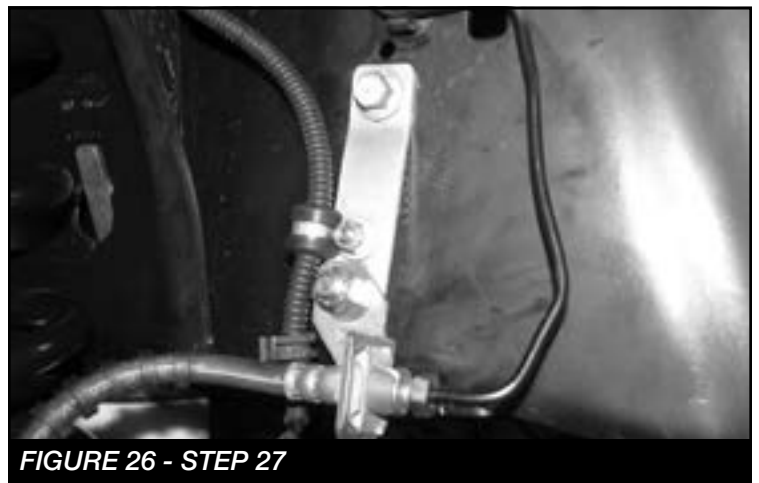

FIGURE 26 - STEP 27
27. **(PASSENGER SIDE)** Install FT30659 (Brake line bracket) to the factory brake line tab using the supplied 3/8" hardware (Use lower hole). Next, using the supplied rubber clamp and 1/4" hardware, attach the ABS line to the upper hole on the FT30659 bracket. Re attach to the frame using the factory hardware. Torque 3/8" & factory hardware to 52 ft-lbs. Torque 1/4" hardware to 14 ft-lbs. **SEE FIGURE 26**